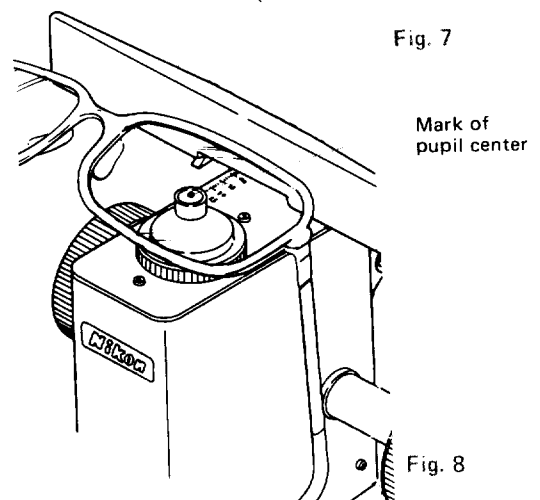

Fig. 8
- Set the lens on the lens table so that the above pupil center mark is coincided with the optical center of the instrument. (Fig. 8)